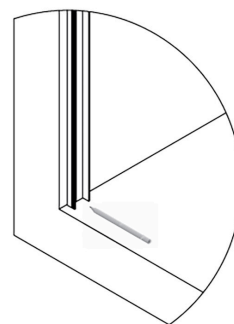

FIGURE 2
Take the Wall Jamb (A) and line the center of it (indicated by the line) up with the center line of tub base found in Step 1. The post should be sitting on the tub or shower base. (See Figure 2)